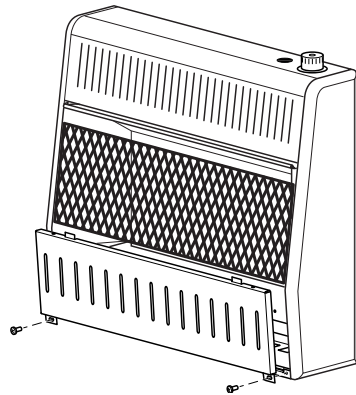

Figure 7 - Removing Front Panel Of Heater
2. Pull bottom of lower front panel forward, then down (see Figure 7).